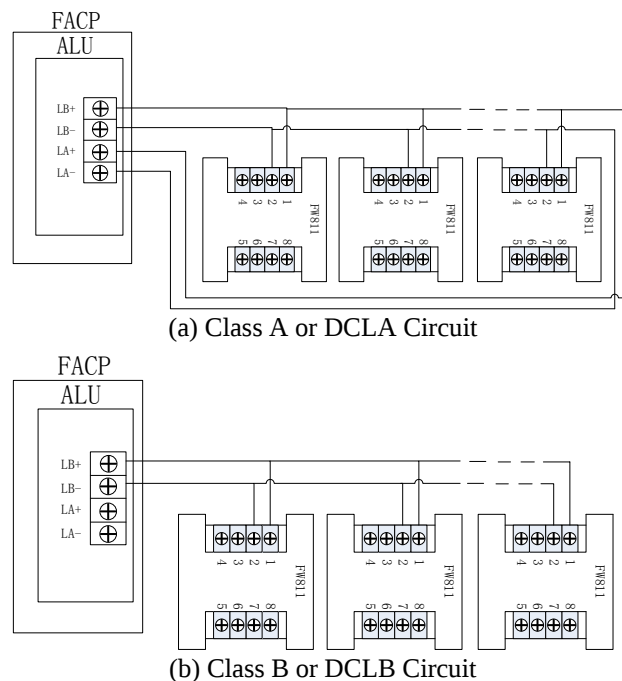

Figure 3. SLC/DCL Wiring Diagram
3. Wire the SLC/DCL to the module, as illustrated in Figure 3.